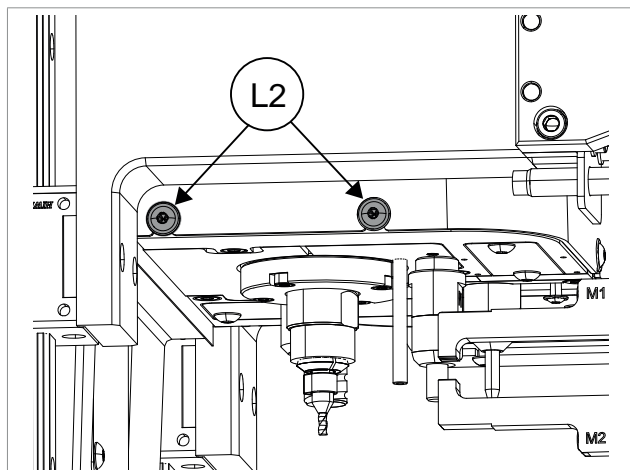
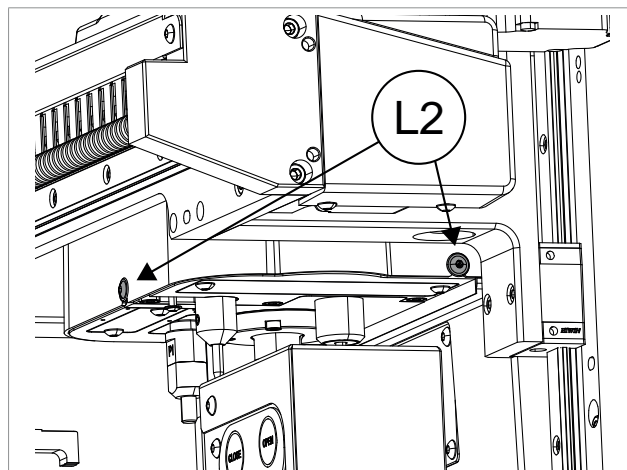
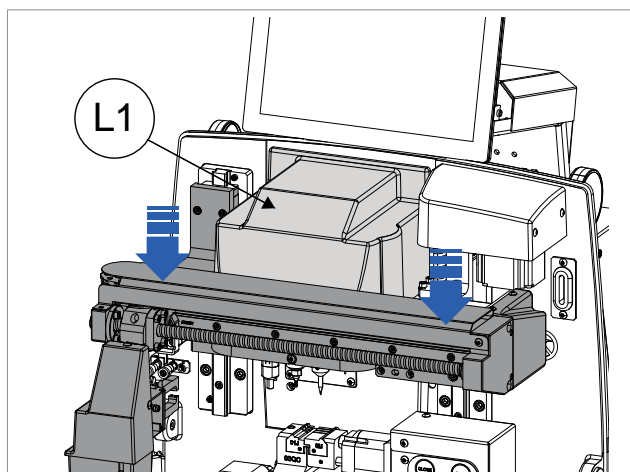

Fig. 92
Fig. 93
Fig. 94
- 2) Remove the rear cover (E) (chap.16.1.1).
- 3) Remove the protective screen (C) (chap.16.1.2).
- 4) Loosen the screws (L2), (Fig. 92 and Fig. 93) push down the ROBOT unit (only for QUATTROCODE D700) ( Fig. 94) and remove the cover (L1) upwards.